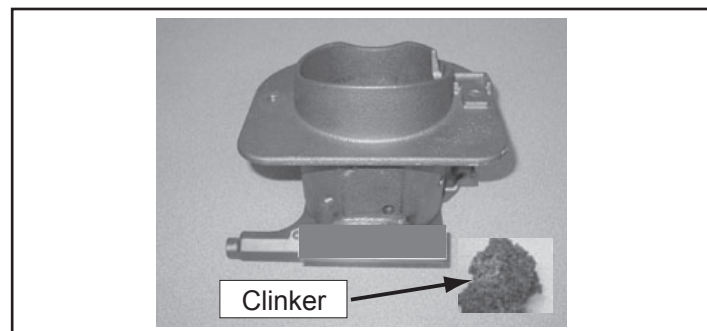

Figure 16.1 - Fire pot with large clinker
- d. It may be necessary to use your fire pot clean out tool to chip away material that has built up on the sides of the fire pot and to push out any clinkers. **Figure 16.1**